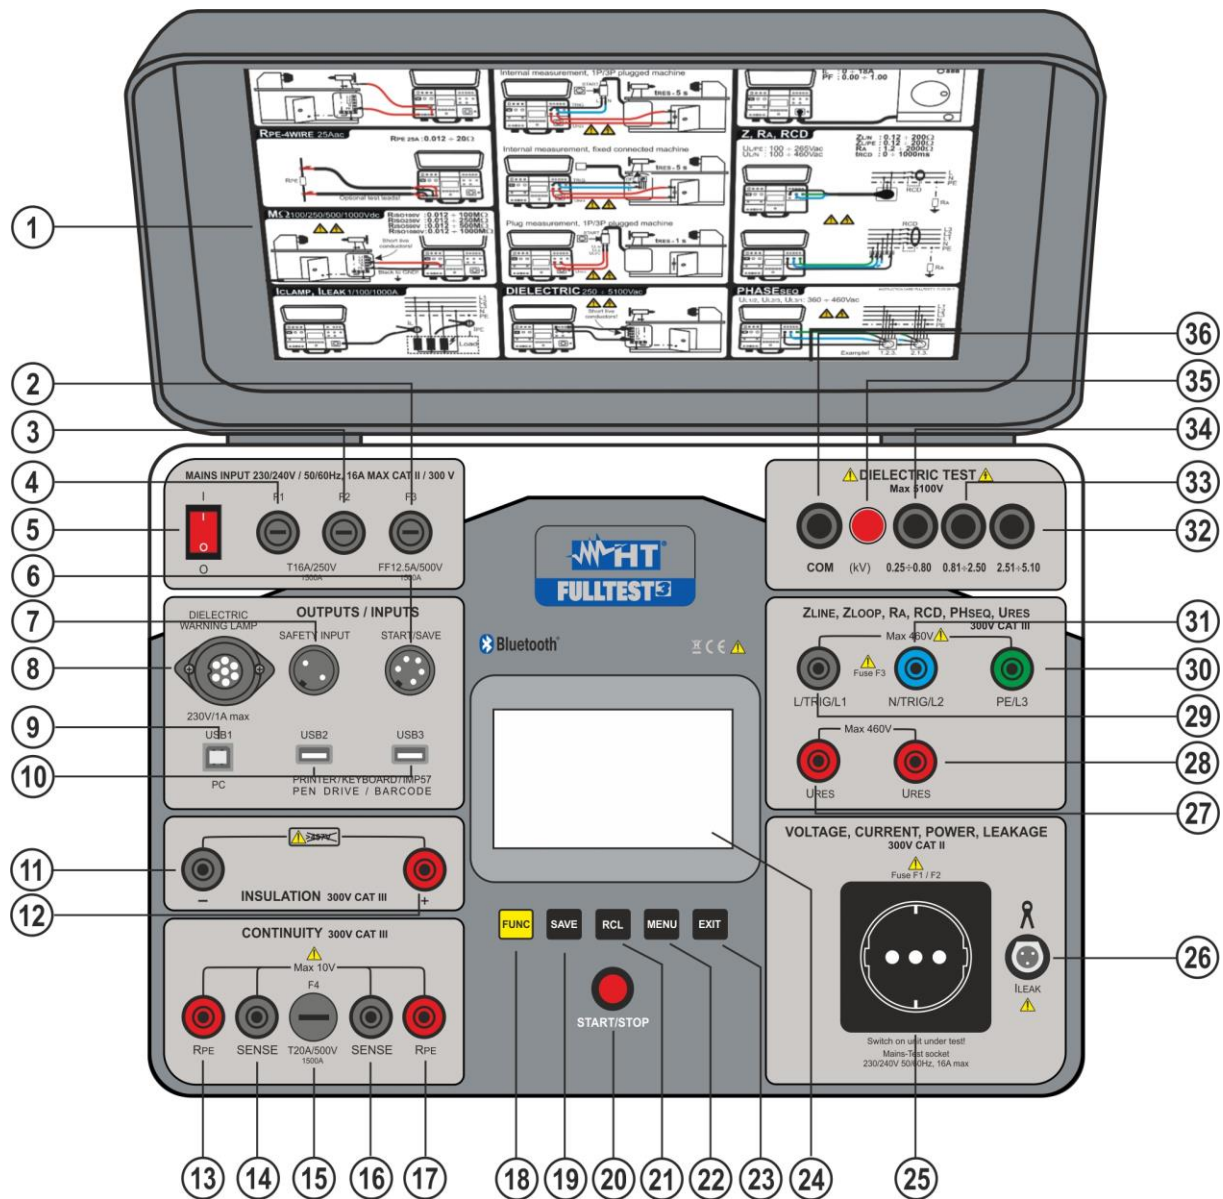

Fig. 2 : Instrument description
2. Switch on the instrument by press **ON/OFF** key (see Fig. 2 – part 5)